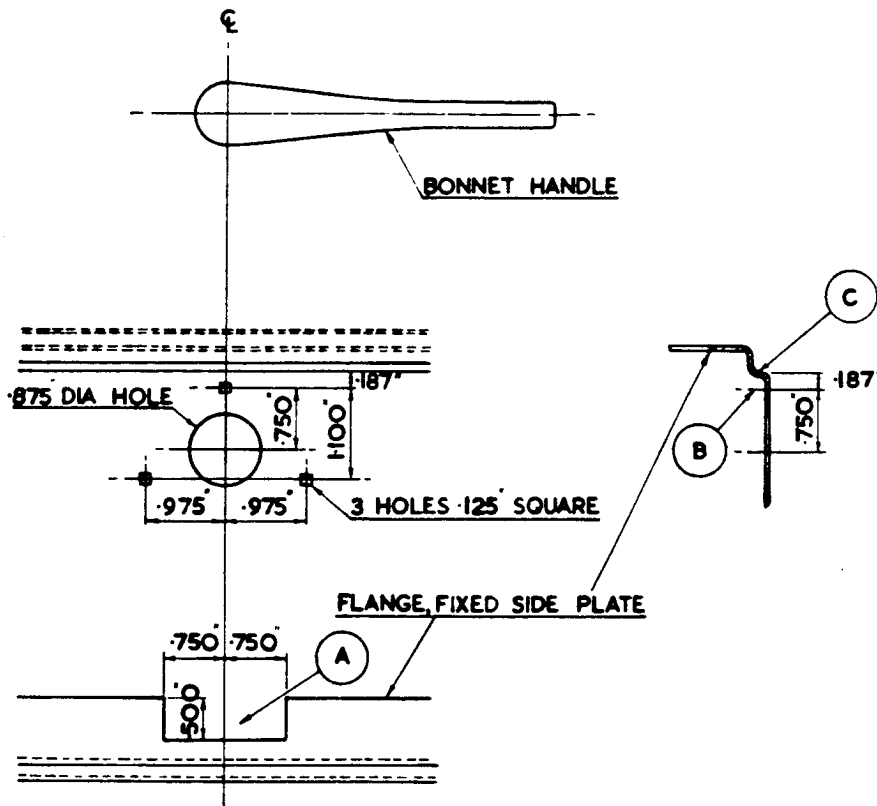
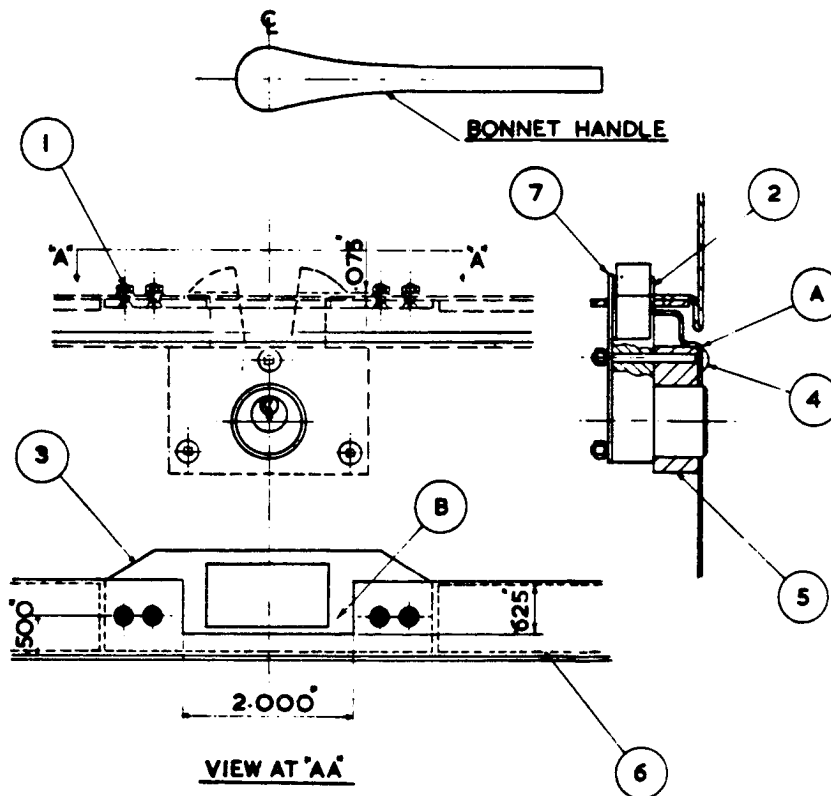

FIG. 1. DRILLING INSTRUCTIONS - BONNET LOCK.
FIG. 2. ARRANGEMENT OF BONNET LOCK.
Note: The datum line for marking off purposes is the centre line through the centre of the shank of the bonnet handle as shown in Figs. 1 & 2.
- (i) Cut a slot, 'A' Fig.1, in the flange of the fixed side plate as shown.
- (ii) Mark off and drill the fixed side plate as shown in Fig.1. It is important that the 0.187" dimension (from the ledge 'C', of the side plate to the centre line 'B') should be adhered to closely to ensure that the distance piece (5) & lock are located as high as possible inside the fixed side plate as shown at point 'A' Fig.2.
- (iii) Lightly radius the distance piece at point 'A' (Fig.2) and with it in position on the lock, temporarily fit the lock to the side plate and check for being square. The three square holes may be trimmed slightly to provide adjustment.
- (vi) Remove the bonnet and cut away the bonnet rest tape on the flange 2.500" either side of the centre line, leaving a gap 5.000" wide to accommodate the lock socket plate (3 Fig.2).
- (vii) Cut a slot 'B' Fig.2, in the flange of the bonnet as shown.
NOTE: When the lock and its socket plate have been fitted, there should be a clearance of not less than 0.075" between the jaws of the lock and the socket plate as shown in Fig.2. With the bonnet handle in the open position and the bonnet locked, check for this clearance by lifting the bonnet. If there is insufficient clearance, then a thin packing plate may be fitted between the plate and the flange.